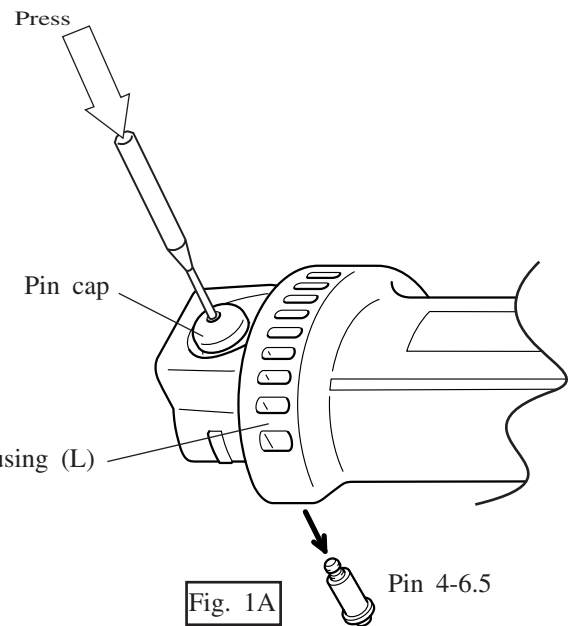

Fig. 1A
- 3) Press pin 4-6.5 out of pin cap. See Fig. 1A.
- 4) Place pin cap on top of pin 4-6.5 aligning hole in pin cap with pin 4-6.5. See Fig. 1A